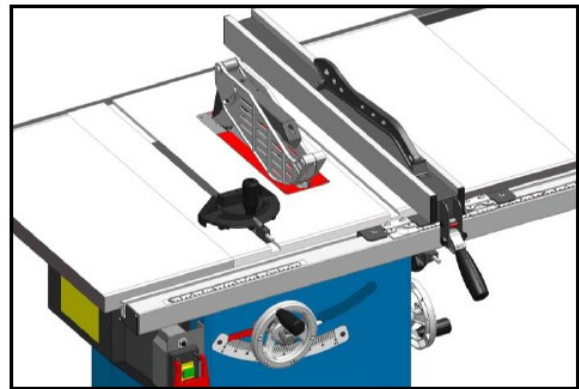

Figure 22
1.) Slide the fence over to the edge of the right T- slot on your table saw and lock the fence into position. Now visually check to see if the the fence is parallel with the T-slot along the length of the fence. You can also take a 3/4" block of wood and slide it up and down the T-slot to check the distance from the edge of the fence. See figure 22.